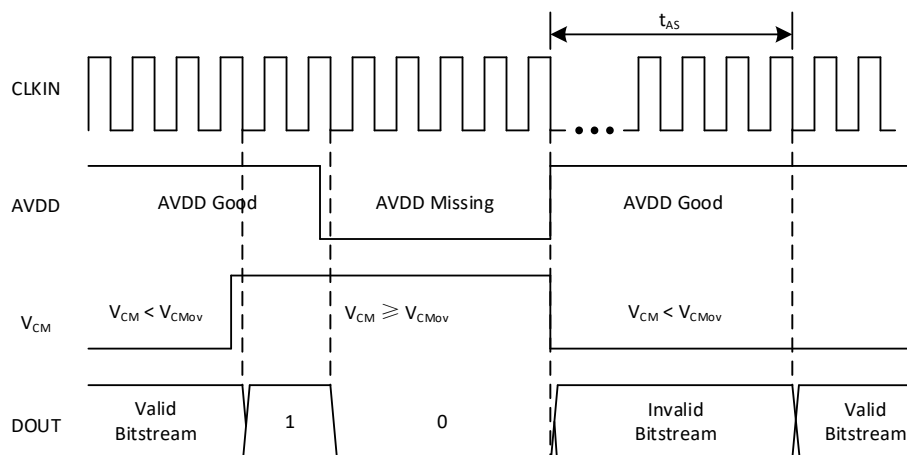

Figure 8.2 Fail-safe output
- When the undervoltage of AVDD is detected ($AVDD < AVDD_{UV}$), DOUT pin output a bitstream of all logic zeros, as shown in Figure 8.2.
- When the overvoltage of common-mode input voltage is detected ($V_{CM} > V_{CMOV}$), DOUT pin output a bitstream of all logic ones, as shown in Figure 8.2.